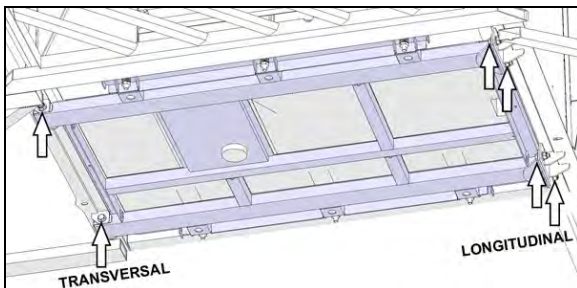

FIGURE 25: LOCATION OF MOUNTING POINTS
3. Carefully inspect fuel cradle mounting bolts, 6 locations (Figure 25).